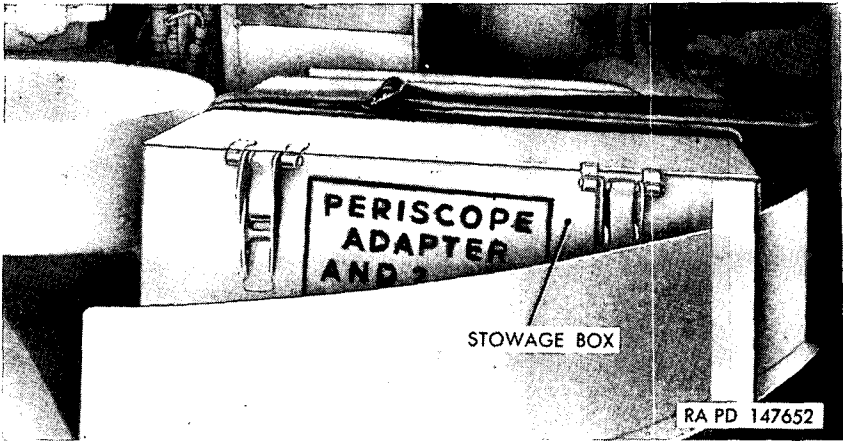

Figure 62. Stowage box for periscope T35 head assemblies.
- (1) Remove the two periscope T35 head assemblies from the stowage box (fig. 62).
- (6) Supporting the periscope head assemblies, loosen the two clamping screws securing the assemblies to the mount, and remove assembly.
- (7) Place both head assemblies into stowage box for T35 head assemblies (fig. 62).
- (8) Replace guard assemblies on the periscope mounts and tighten the two knobs locking the guard in position.
- (9) Stow the two periscope T35 head assemblies in the stowage box (fig. 62).